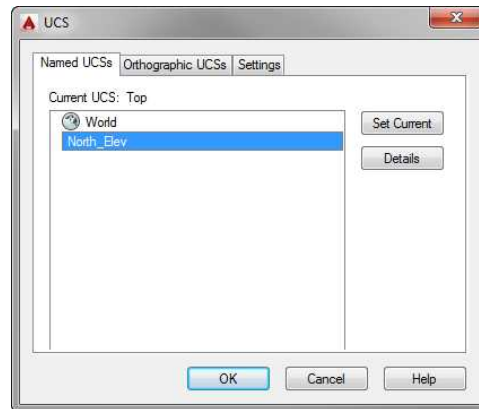

FIGURE 10.45: The UCS dialog box
14. From the UCS dialog box, click the Named UCSs tab, and then click the current UCS name (currently named Unnamed) once to highlight the text. Then select North_Elev (see Figure 10.45).